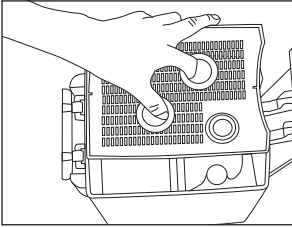

fig 11
- Remove the lid of the filtering materials by inserting your fingers into the appropriate holes to facilitate the operation (fig. 11).
N.B.: before closing the hooks or forcing the safety levers, make sure that the filtering material are in their proper position, that the containers of the filtering materials overlap perfectly (i.e. that no materials protrude) and that the lid of the filtering materials (fig.11) is in the correct position.